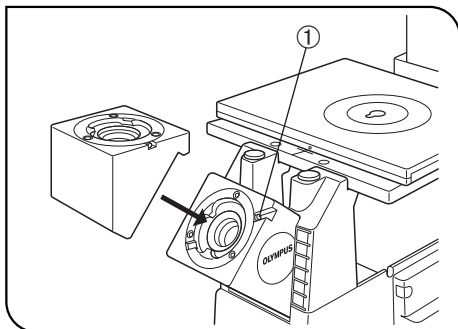
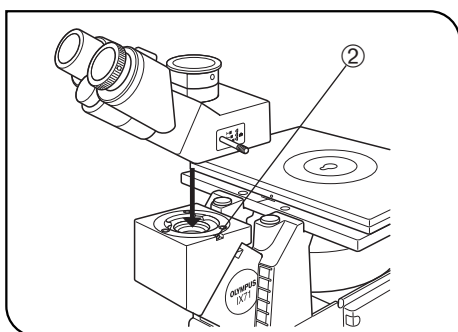

Fig. 98
Fig. 99
U-TR30H-2 Tube (Figs. 98 & 99)
1. Using the Allen screwdriver, loosen the observation tube clamping screw ① on the observation tube mount. (Fig. 98)
2. Insert the circular dovetail mount of the intermediate tube into the observation mount so that its upper surface is flush with the microscope frame. Tighten the observation tube clamping screw ① to clamp the intermediate tube.
3. Using the Allen screwdriver, loosen the observation tube clamping screw ② on the intermediate tube's observation tube mount. (Fig. 99)
4. Insert the circular dovetail mount of the observation tube into the intermediate tube's observation tube mount so that the binocular eyepiece sleeves face toward the front. Then tighten the observation tube clamping screw ② firmly. (Fig. 99)